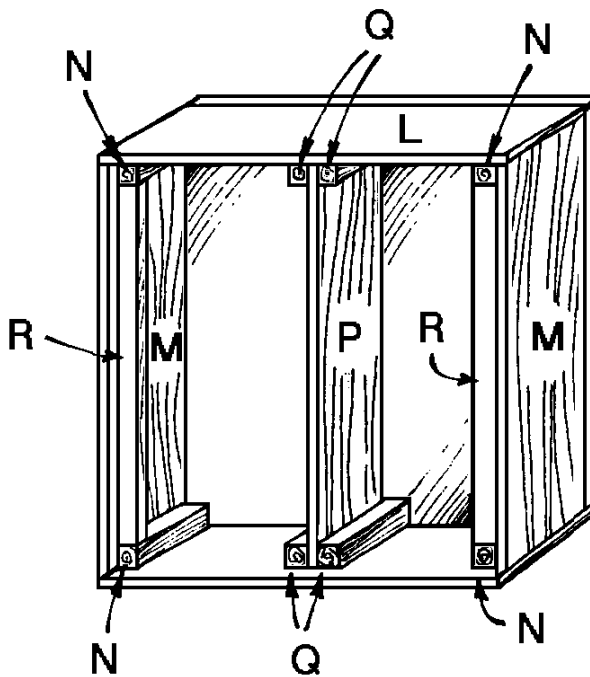

Figure 11
12. Position the Center Divider (P) in the exact horizontal center of the drawer housing, flush against the Housing Back (O), as shown in *Figure 11*. Note that there will be a 2-3/4-inch allowance at the front of the drawer housing. Glue and screw the four Center Divider Supports to the Housing Bottom (L) and Housing Top (L). Using 2"-long screws, screw through the Housing Back (O) into the ends of the four Center Divider Supports (Q) and into the Center Divider (P).